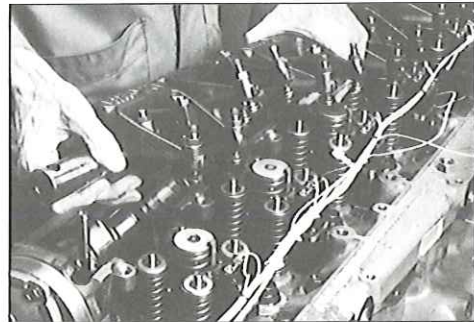

FIG. 51
4. Lift off the rocker arm assembly (see Fig. 51).